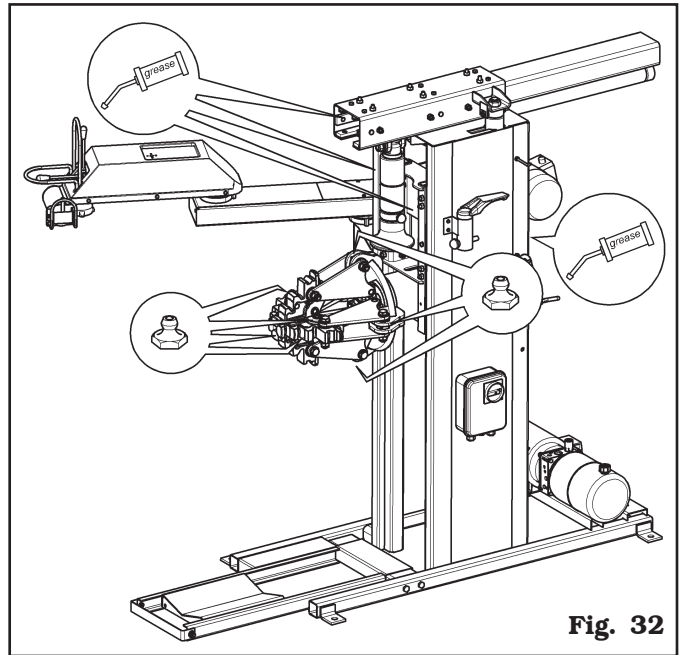

Fig. 32
- Periodically (preferably once a month), grease all moving parts of the equipment (see **Fig. 32**).